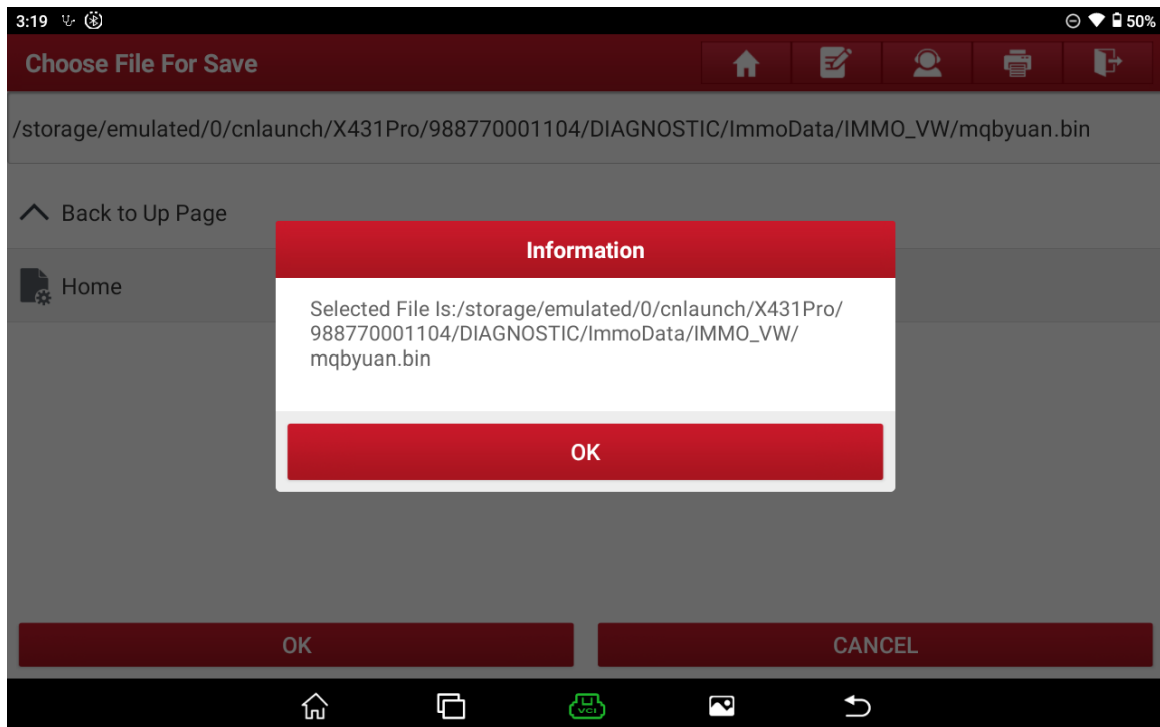

Figure 19
18. Confirm the save path and select OK, as shown in Figure 19.